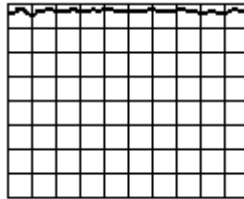

Figure 11. Frequency range
- (1) Connect TI tracking generator **RF OUT 50Ω** to TI **RF INPUT 50Ω**.
- (2) Connect TI **1st LO 50Ω OUTPUT** to TI tracking generator **1st LO IN**.
- (3) Connect TI **2nd LO 50Ω OUTPUT** to TI tracking generator **2nd LO IN**.
- (4) Adjust TI **VAR dB** control to **0**.
- (5) Set TI **OUTPUT LEVEL -dBm** to **00**.
- (6) Press TI **BLUE SHIFT** then **RESET** keys.
- (7) Displayed trace must begin at left edge of TI CRT (100 kHz) and extend to right edge of TI CRT (1.8 GHz). See example in figure 11 below.